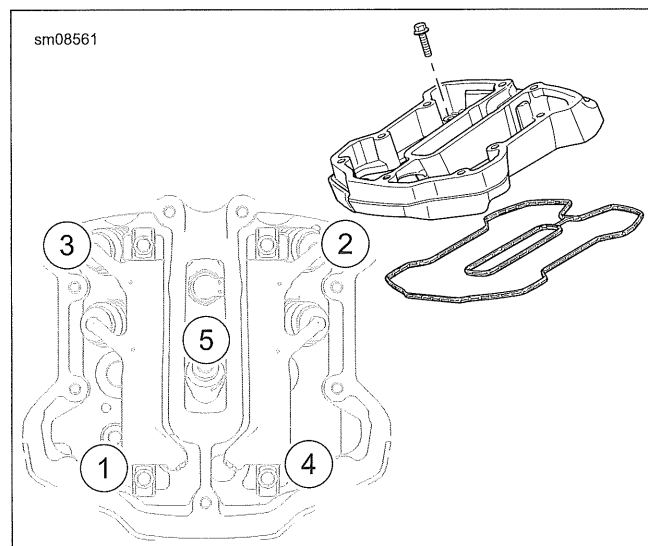

Figure 4-21. Lower Rocker Cover
1. See Figure 4-21. Remove lower rocker cover.
2. See Figure 4-21. Install lower rocker cover.